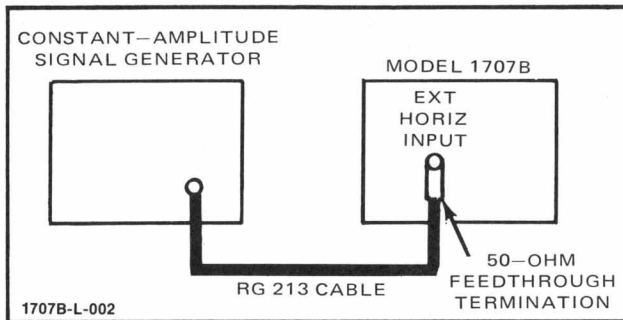

Figure 5-16. Ext Horizontal Bandwidth Test Setup
- Set up instruments as shown in figure 5-16.